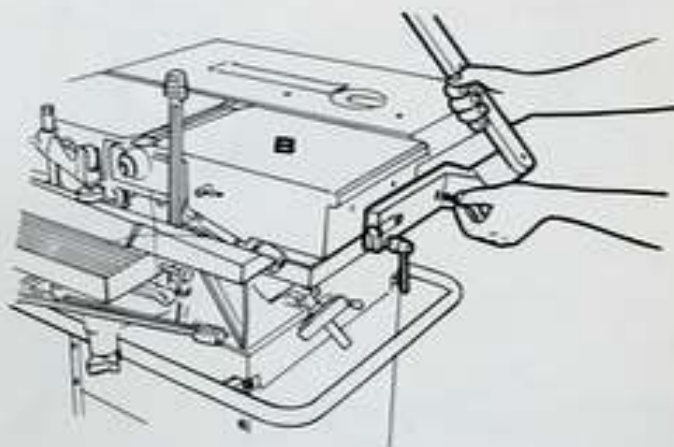

fig. 47
1) For the special guard on the surfacing planer, just screw the support on to the side of table B (Fig. 47) using the holes which have been provided.
2) The same support is also used for mounting the special guard on the circular saw (Fig. 47).